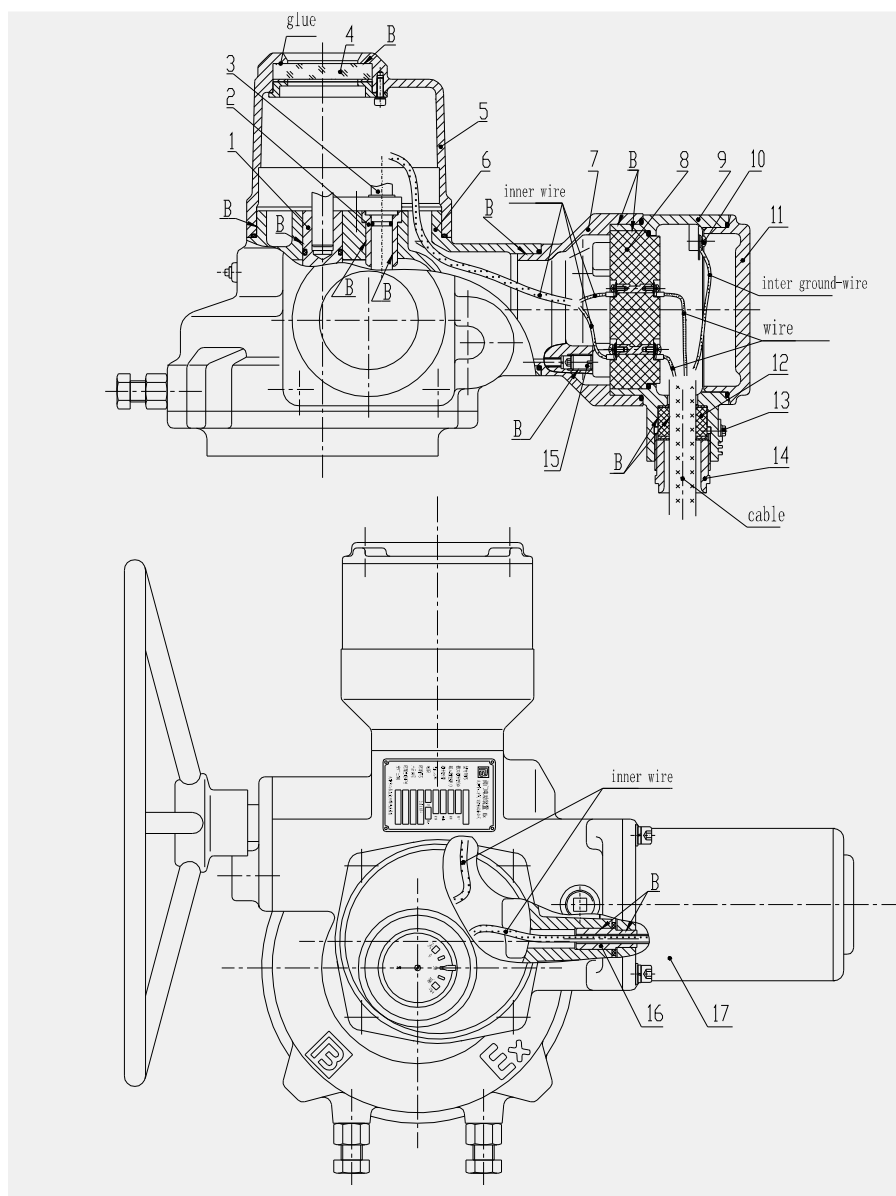
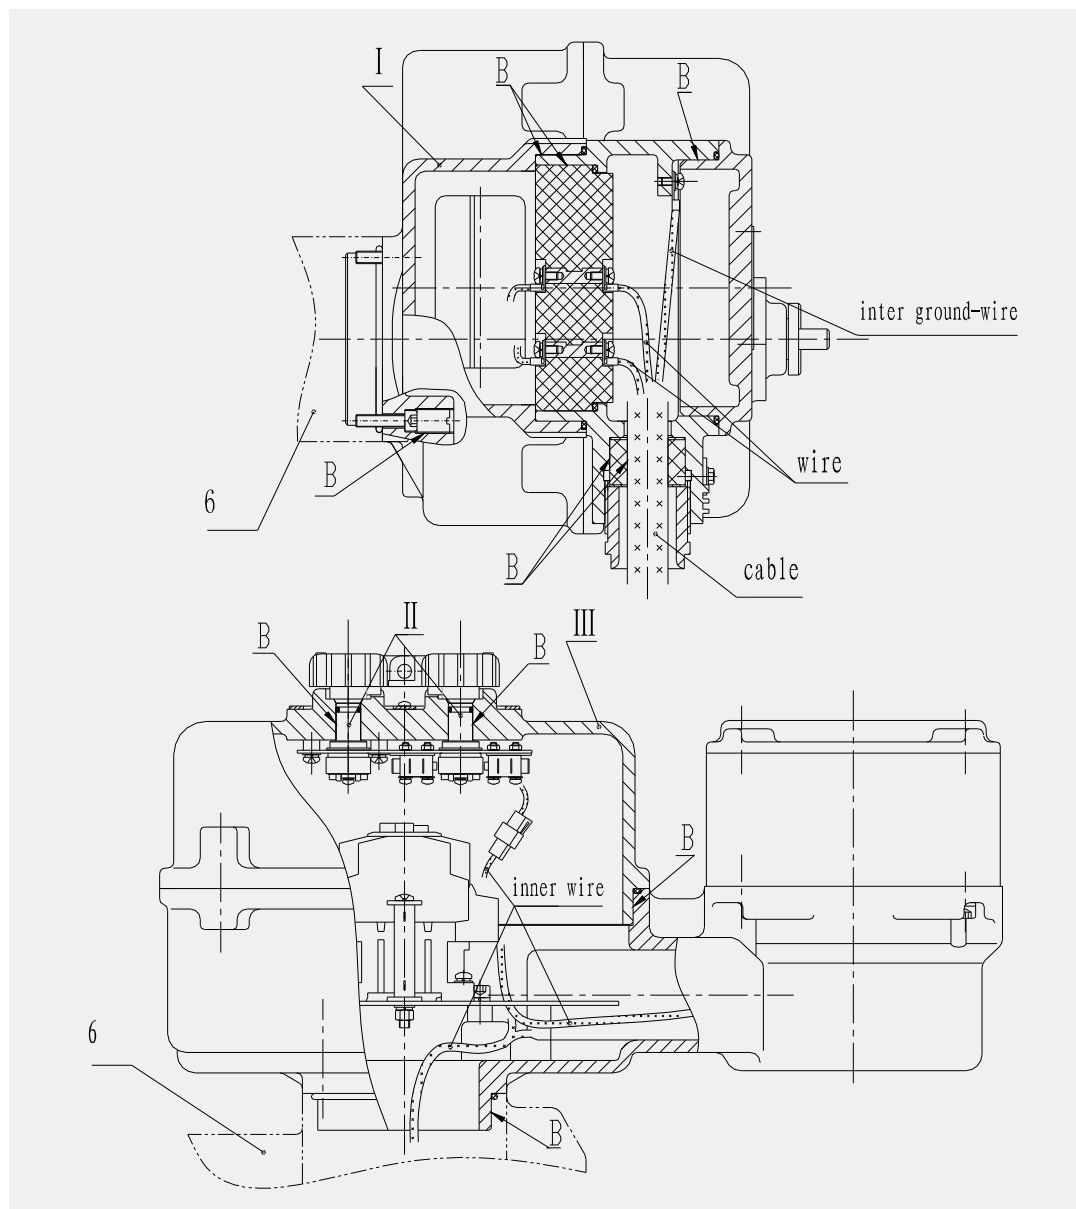

fig.1 Construction fig. Of ex-proof basic version
Fig.2 Construction fig. Of ex-proof with control package
- Do not knock and injure the interface (marked “B”) showed in fig.1、fig.2 when adjusting and maintaining your product. Do not miss the four ex-proof bolts, which secure the wiring box pedestal and the housing.
- Do not motor operate the unit with damaged ex-proof parts, change them instantly. (the name of the explosion-proof parts can refer to fig.1、fig.2 and table1、table2) .
- Ex-proof With control package is based on the basic version, change the ex-proof housing cover subassembly only. You can familiar with it refer to fig.1 and fig.2.